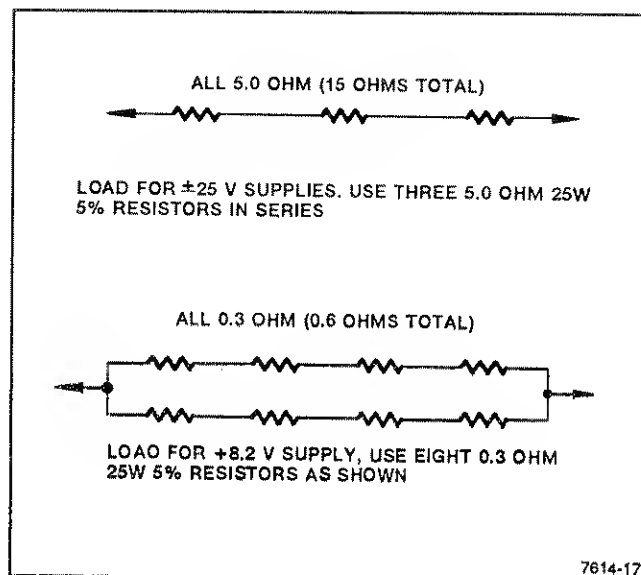

Fig. 4-3. Test loads for use with the adjustment procedure.
- Connect a load as described in Figure 4-3 between +8.2 V and ground.
- Connect a load as described in Figure 4-3 between +25 V and ground.
- Connect a load as described in Figure 4-3 between -25 V and ground.